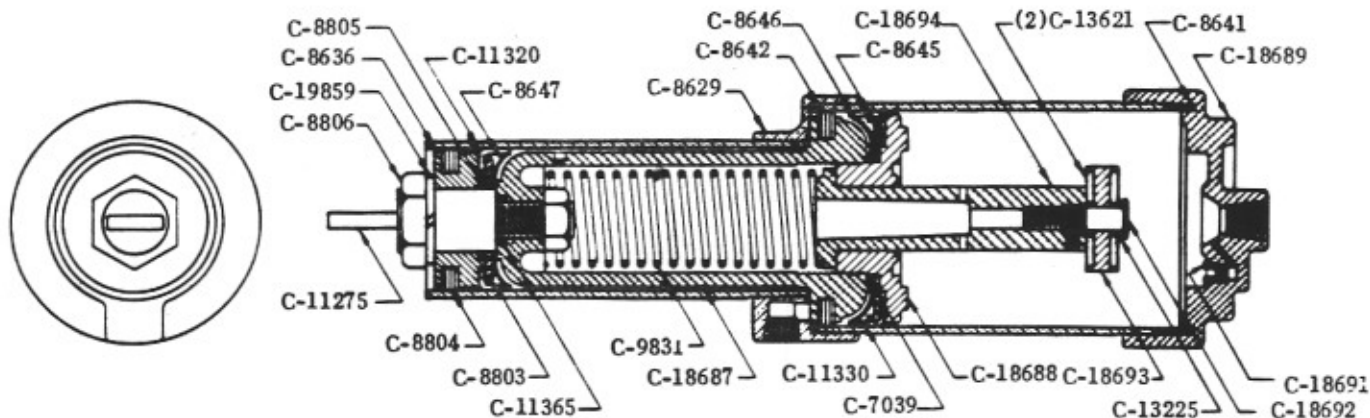

Figure 144
**OPERATOR ENGINE OPERATION** The piston assembly of the operator engine has two different diameters, and fits into piston chambers of corresponding size. See Figure 144. As the pistons have different areas, when air pressure is present in both chambers the piston with the larger area exerts the greater force and overcomes the lesser opposing force of the smaller piston. Therefore, the piston assembly moves outward, closing the door.